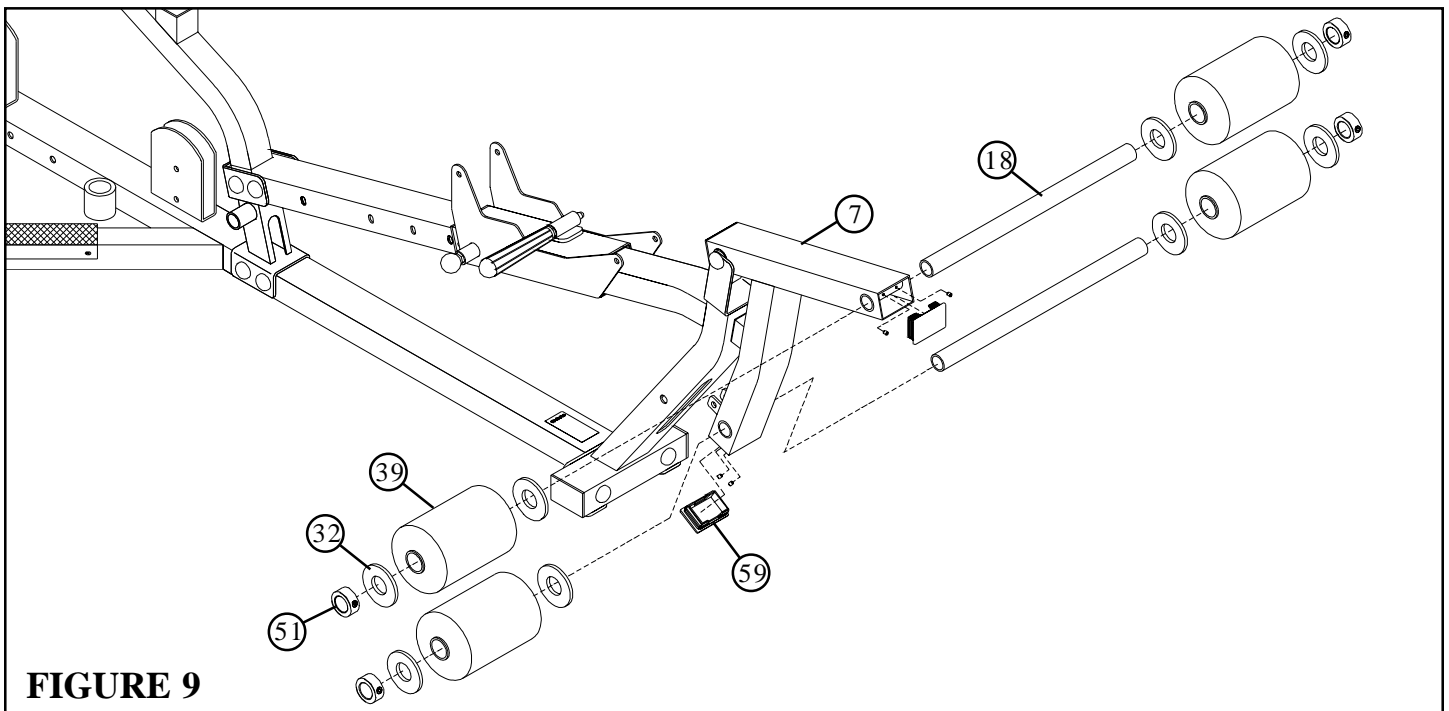

FIGURE 9
- Assemble four 5 X 8" ROLLER PADS (39) and eight 2-3/8" OD PLASTIC WASHERS (32) to the PEDESTAL (7) using four 1-1/4" SHAFT COLLARS (51) and two 19-1/4" ROLLER PAD TUBES (18) as shown in FIGURE 9.
- Once the 5 X 8" ROLLER PADS (39) are assembled to the PEDESTAL (7), **SECURE** the 19-1/4" ROLLER PAD TUBES (18) with the four 5/16 X 1/4" SET SCREWS as shown in FIGURE 9.
- Insert two 3 X 2" END CAPS (59) into the ends of the PEDESTAL (7) as shown in FIGURE 9.